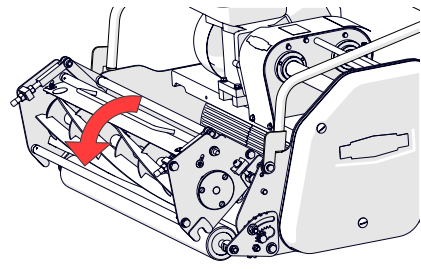

Fig.11D - Lift the cassette out
5. From the front of the machine, hold onto the cassette handle and remove by a lift-and-swing motion, from the back to the front. ⚠ We recommend two people to help with this (Fig.11D).
5. Two positions along the cassette are required to be measured and adjusted to result in an even brush/verti-cut/scarify. Choosing either end of the cassette first, lay the setting bar across the front and rear roller (Fig.11D). Correct height is achieved when either the tips of the brush hairs/verti-cutters are level with the bolt head, or the